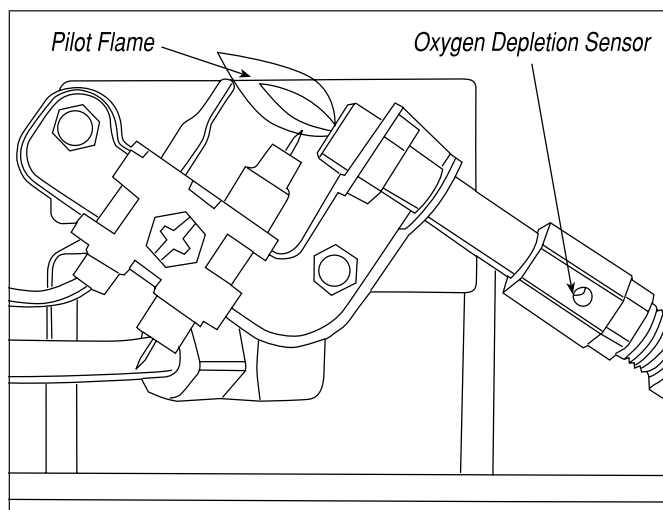

Figure 2
Visually inspect the pilot flame and burner periodically during use. The pilot flame should be blue in color (not yellow) and will extend beyond the thermocouple. The flame will surround the thermocouple just below the tip, see Figure 2. A slight yellow flame may occur where the pilot flame and main burner flame meet. The burner(s) should be bright orange (with a slight blue color around the border, a red-orange haze that is visible on the ceramic tile is acceptable) and without a noticeable flame. A blue flame that rolls out at the top of the ceramic tile indicates an accumulation of dust, lint or spider webs inside the casing assembly and main burner assembly. If the pilot is yellow or the burner has a noticeable flame, cleaning may be required. Use the following procedure to inspect the casing assembly and main burner assembly.
4. Remove (4) screws securing back cover to heater. Lift up slightly to release (2) plastic hooks on top of back cover.
6. Remove (3) screws attaching lower baffle to expose burner air openings.
9. Inspect and clean pilot (mounted to bracket) by using a vacuum or apply air pressure through the holes in the pilot indicated by the arrows in Figure 2.
11. Reinstall lower baffle with (3) screws
12. Slide back cover over (2) plastic hooks on top of heater. Make sure rear cover aligns with plastic side covers. Install (4) screws to hold in place.